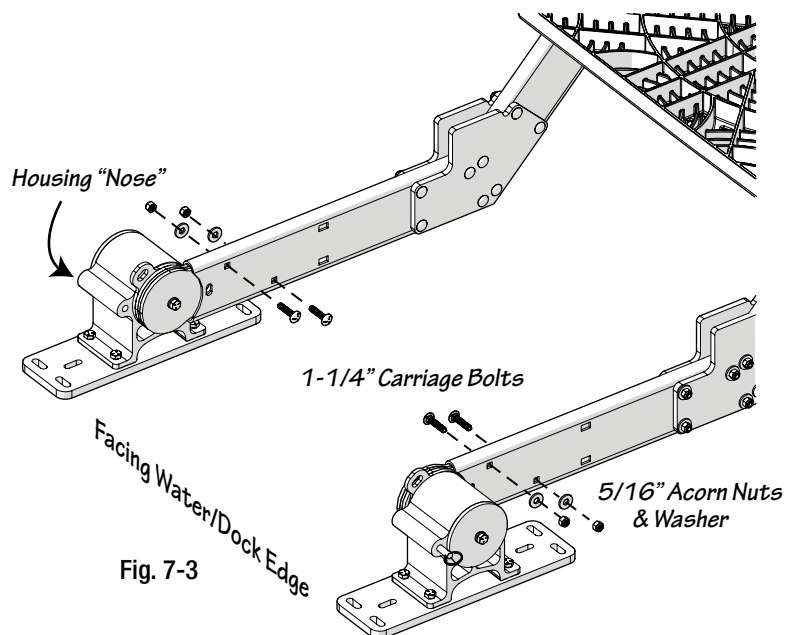

Fig. 7-3
- Insert 2 (5/16 x1-1/4") carriage bolts from the inside of the ladder frame through the upper frame & base/housing plate as shown in Fig.7-3.